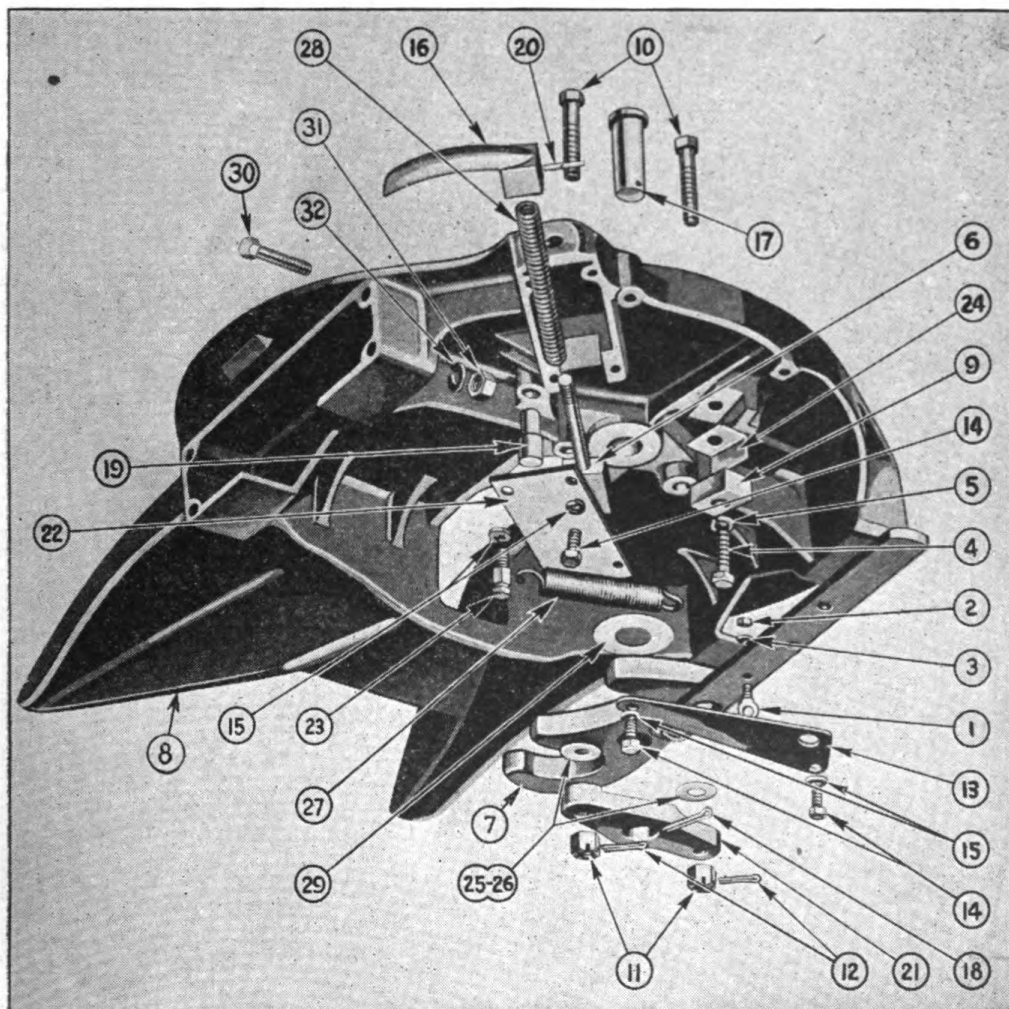

FIGURE 49. COUPLER—EXPLODED—DOLLY.
4. **TESTING AND CORRECTING PLAY IN HOOK** (Fig. 49).—
b. If the hook pin (17) becomes worn, the coupler will develop an excessive “slap” and lost motion. The following repairs should then be made:
(c) *Installation of hook lock handle* (Fig. 49).—1. When performing this operation disconnect converter gear from trailer.